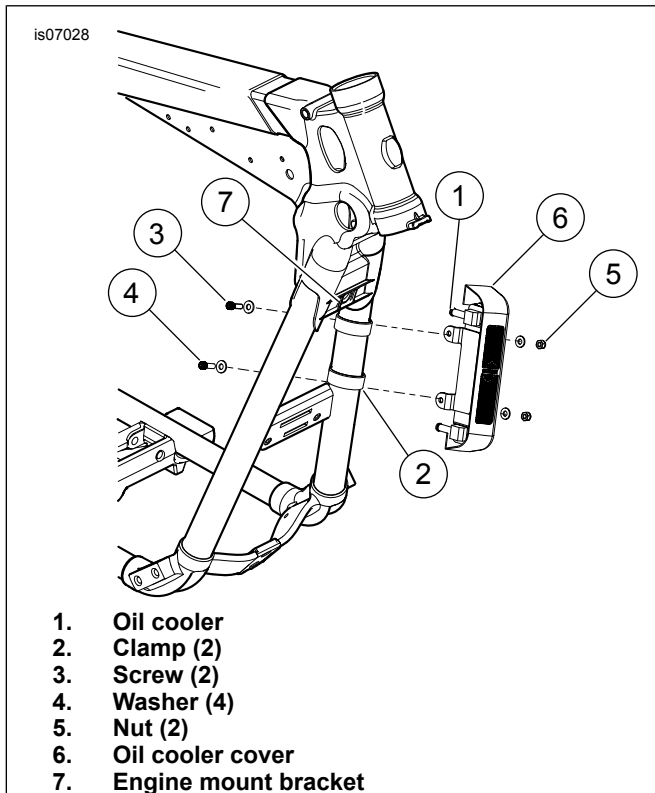

Figure 2. Mounting the Oil Cooler Assembly
1. See Figure 2. Install the oil cooler (1) to the left side downtube with two clamps (2), two socket head screws (3), four washers (4) and two nuts (5). Align the clamps flat side outward and position upper bracket no more than 31.8 mm (1½ in) from bottom of engine mount bracket (7). Tighten screws to 10.2–13.5 N·m (90–119 in-lbs).